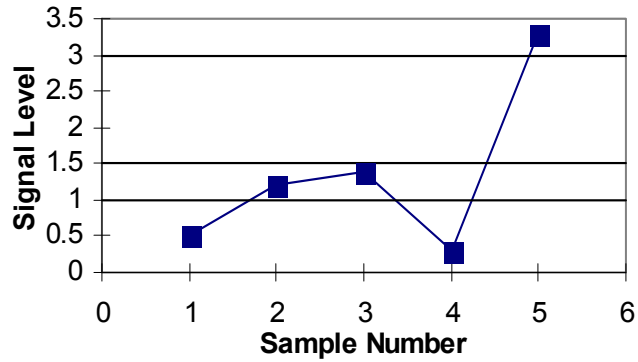

FIGURE 6.4-1. Example Crossing Data
**One Dim Level Crossing Example:** As an example of the level crossing algorithm, assume we have a one dimension 3 bin level crossing histogram (the **second dimension** =1) and are counting crossings on the rising edge. The crossing levels are 1, 1.5, and 3. Figure 6.4-1 shows some example data.